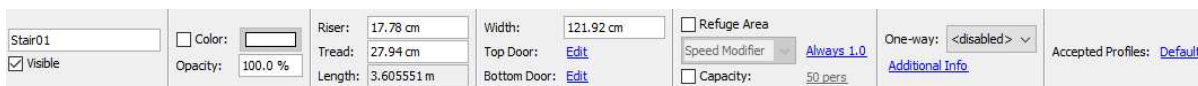

Figure 63. Stair property panel
Stairs have a number of properties that control their geometry and behavior of occupants that travel on them. When a stair is selected, these properties can be seen in the stair’s property panel as shown in Figure 63.
2. Select the stair (or several) so its properties are visible in the property panel as shown in Figure 63.